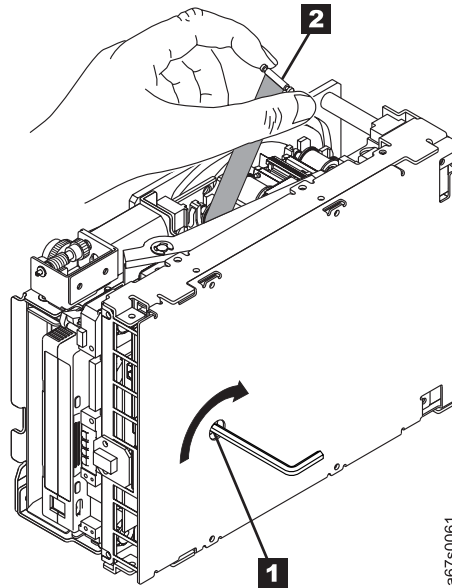

Figure 38. Rewinding the leader pin into the tape cartridge
1. Place the tape drive so that the front faces you, then tilt it on its left side (see Figure 38 on page 106).
3. If necessary, use needle-nose pliers to grasp the end of the leader pin and pull it out of the cartridge so that you can grip it with your fingers (see **1** in Figure 38 on page 106).